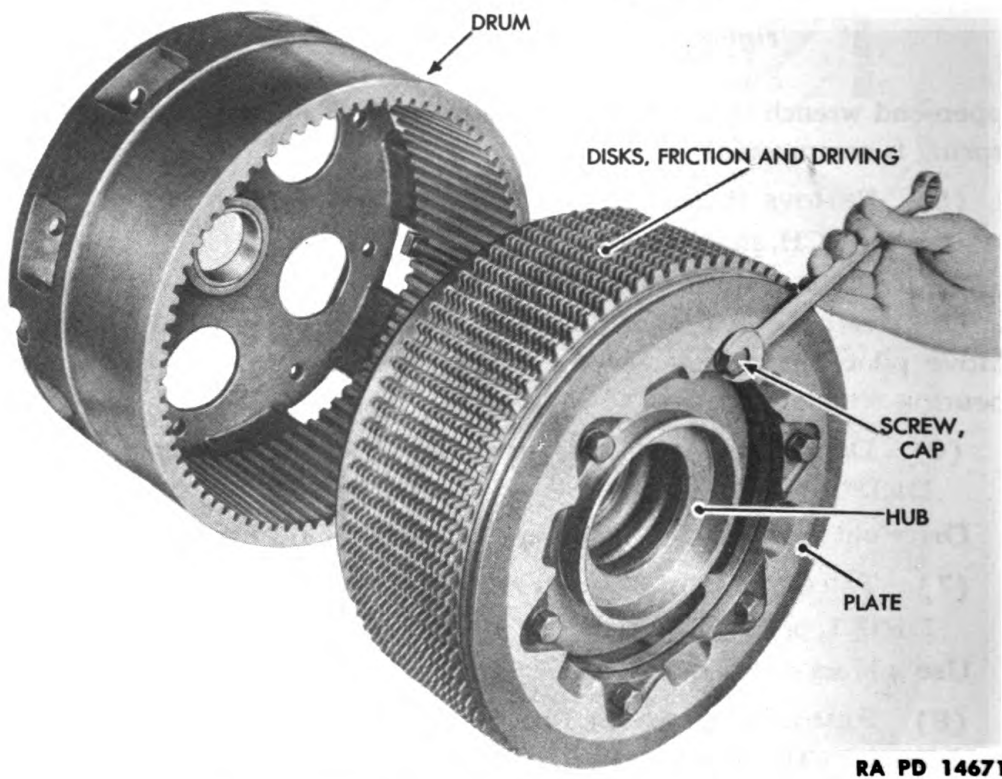

Figure 101 — Steering Clutch Plate Removal
POWER TRAIN, TRACK FRAME ASSEMBLY, AND SEATS****(9) REMOVE FRICTION AND DRIVING DISKS (fig. 101).****HAMMER**
(10) REMOVE STEERING CLUTCH PLATE (figs. 101 and 102).**WRENCH, open-end, 3/4-in.**